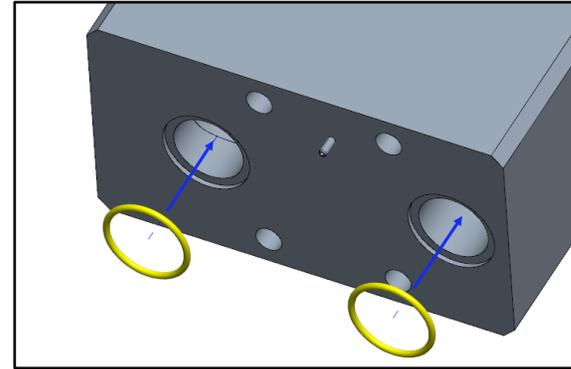

Figure 4-9. O-rings Installation into Shuttle Valve Manifold
3. Lubricate O-rings with Parker Super O-Lube or petroleum jelly and install into the ID groove of the shuttle valve manifold (Figure 4-9).